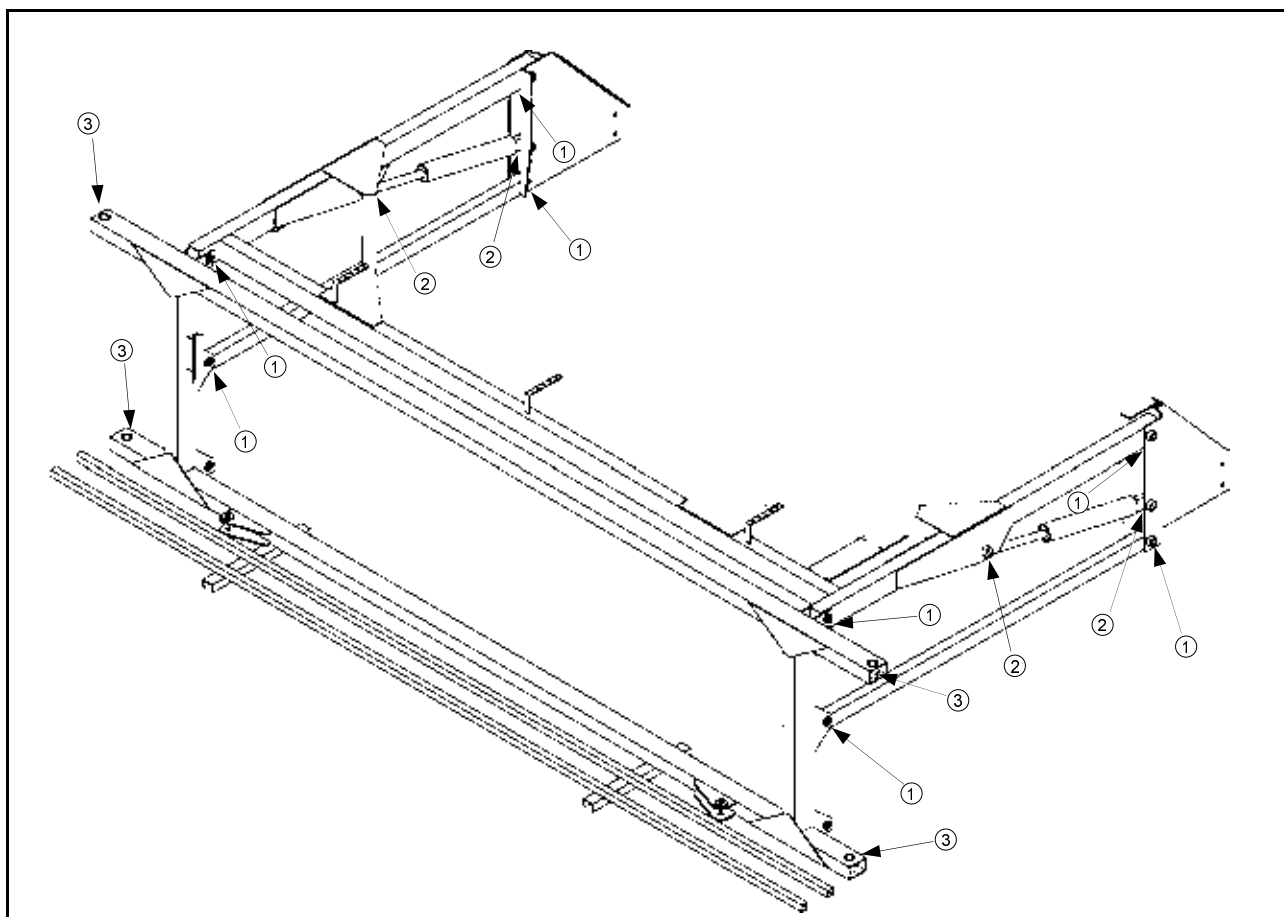

FIG 8.39
Lift arm lift pivots: eight places (fig. 8.39, items 1)
Lift cylinder pivots: four places (fig. 8.39, items 2)
Boom fold pivots on transom: four places (fig. 8.39, items 3)